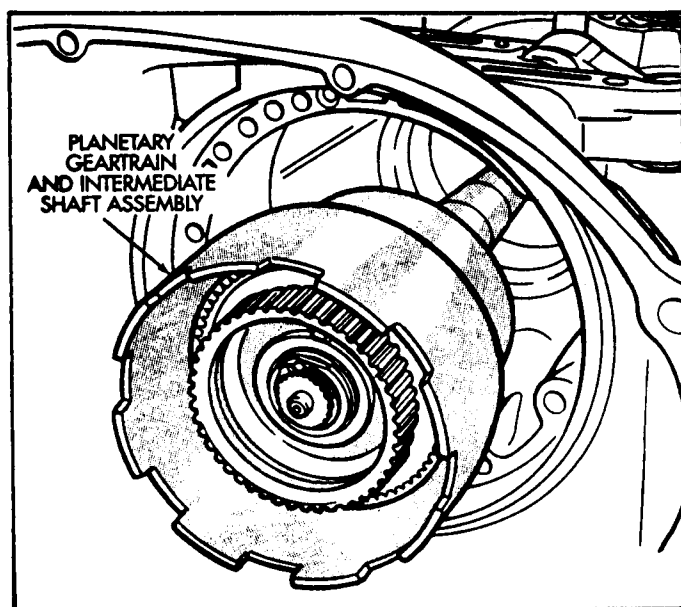

Figure 133
15. Install the preassembled planetary geartrain assembly into the case using both hands, until it is fully seated (See Figure 133).